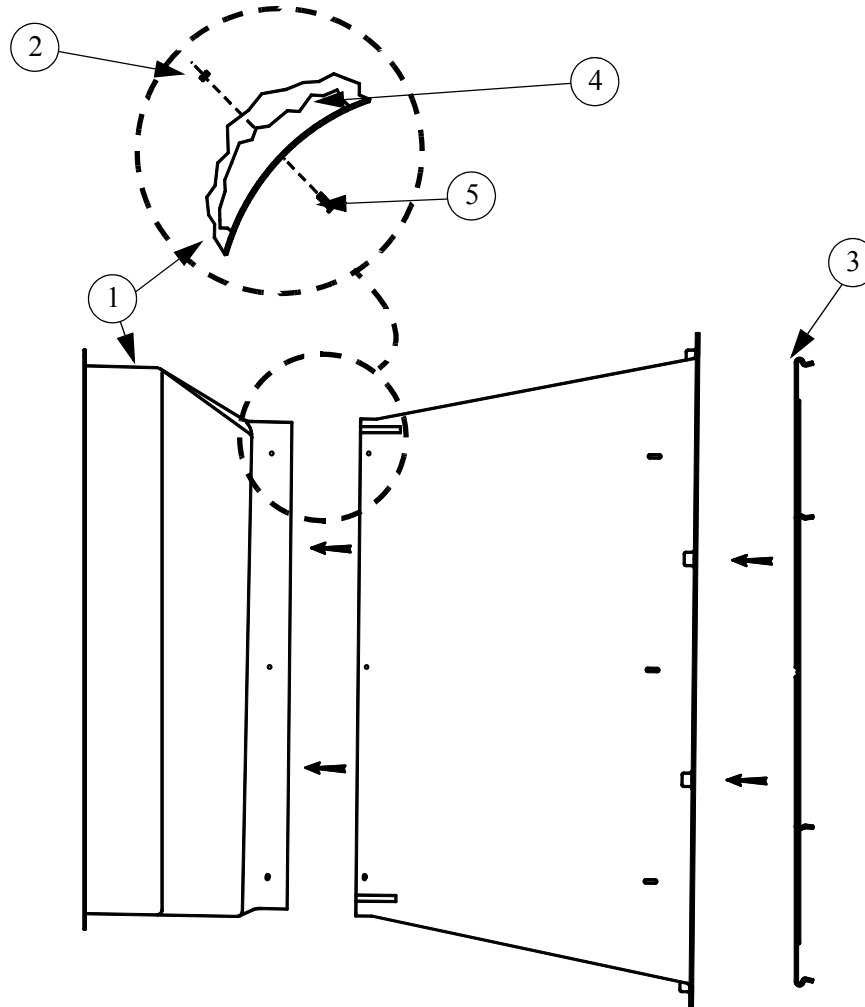

Figure 5. Cone Installation
1. Slide the Cone onto the Shroud—the Shroud fits inside the Cone. **See Figure 5.**